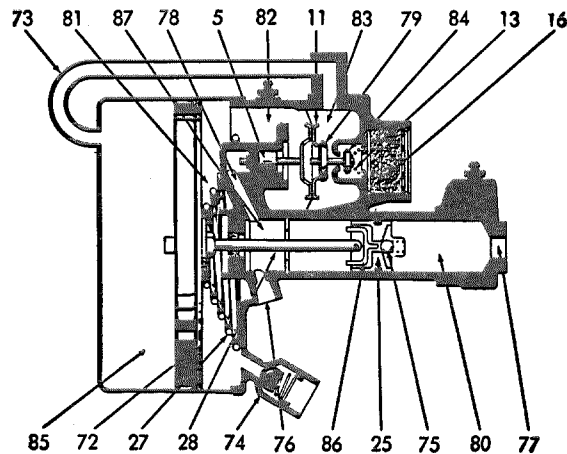

Fig. 42 — 0/16
When the brake pedal is applied, fluid under pressure by-passes the ball check valve (75) and is transmitted to the slave cylinder chamber (80) and to the brake wheel cylinders. At the same time pressure is built up at the left of the valve piston (5), moving the piston to the right. As a result, the piston (5) presses against the diaphragm (11) and moves the diaphragm to the right until it comes to rest against the vacuum poppet (79). Any further movement to the right opens the atmosphere poppet (84) (Fig. 42 — 0/16).